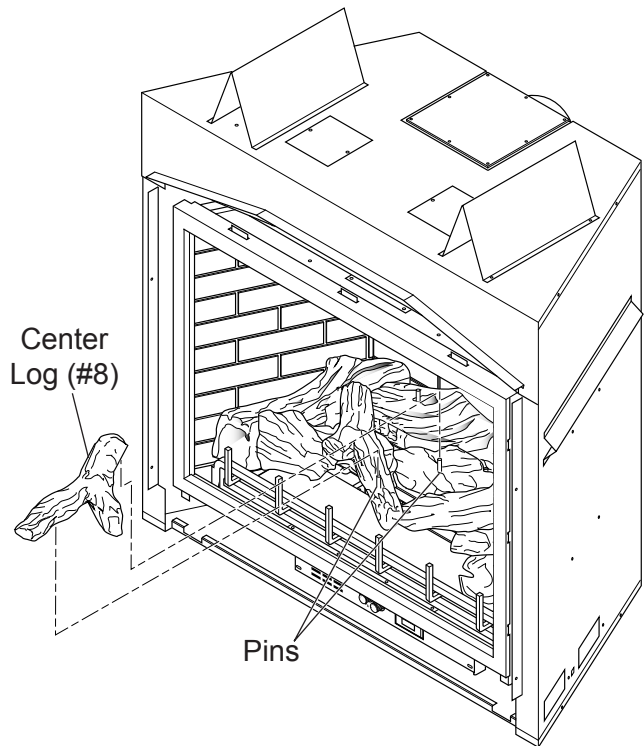

Figure 49 - Installing Center Top Log (#8)
- Place top center log (#8) across rear log (#1) pin and left mid log (#6) pin. *See Figure 49.*
- Break up rock wool (ember material) into dime-sized pieces. Place evenly across both burner surfaces. *See Figures 49 and 50.* Do not exceed $\frac{1}{2}$ " depth of coverage. **For best flame and glow, do not block air space between burners and logs with rock wool.**